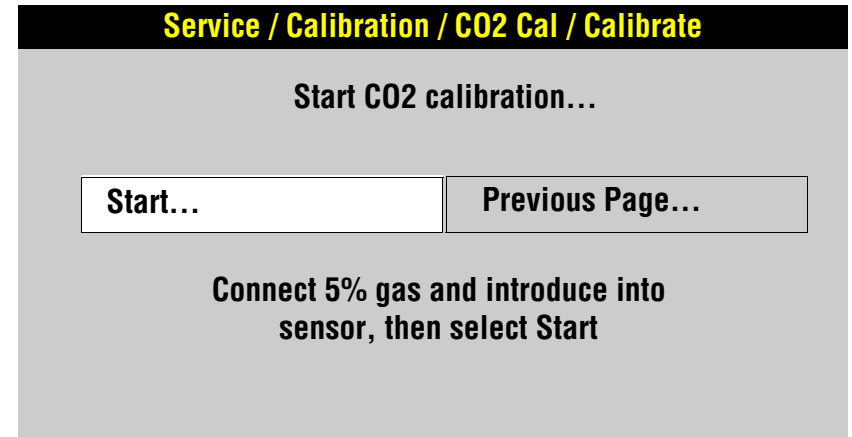

Figure 6.12—CO2 calibration overlay
4. The overlay shown in Figure 6.12 appears.